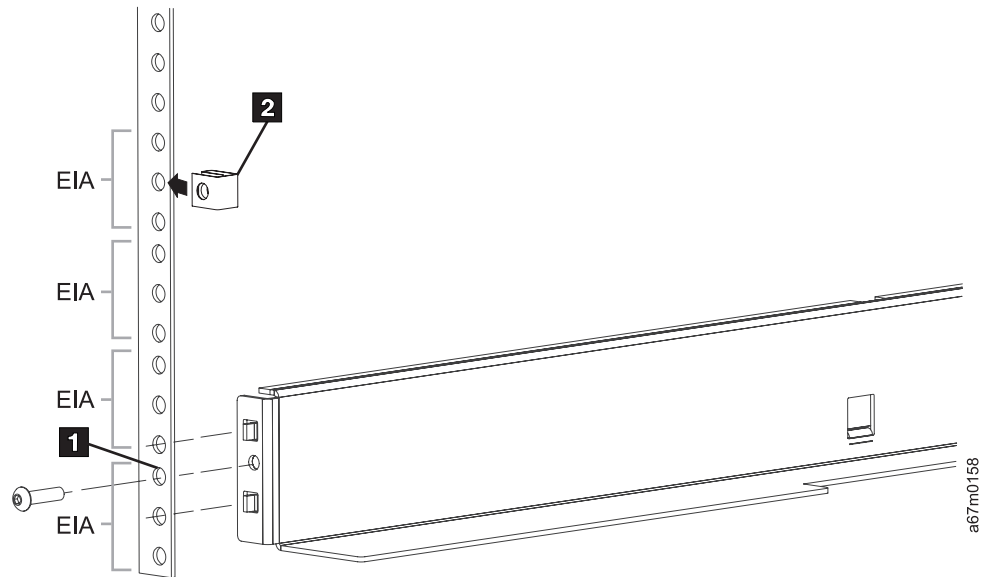

Figure 33. Installing cage nuts on the front rails of the rack
- 7. On both front rails in your rack, attach an M6 cage nut into hole **2** in Figure 33 on page 55, which is **eight** holes above hole **1**. A flat blade screwdriver might assist you in snapping the cage nuts to your rack. (An M6 cage nut can be either square or round, depending on the shape of the holes in your rack. The round hole cage nut has part number 00N8709; the square hole cage nut has part number 12J5288.)